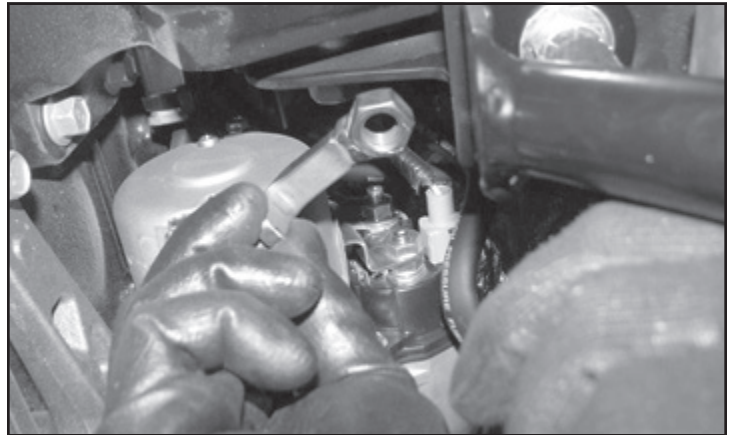

FIGURE 26 - STEP 33
34. Using the outer tab on the bump stop as a drill guide, drill a 5/16" hole all the way through the factory bump stop mount. **SEE FIGURE 26**